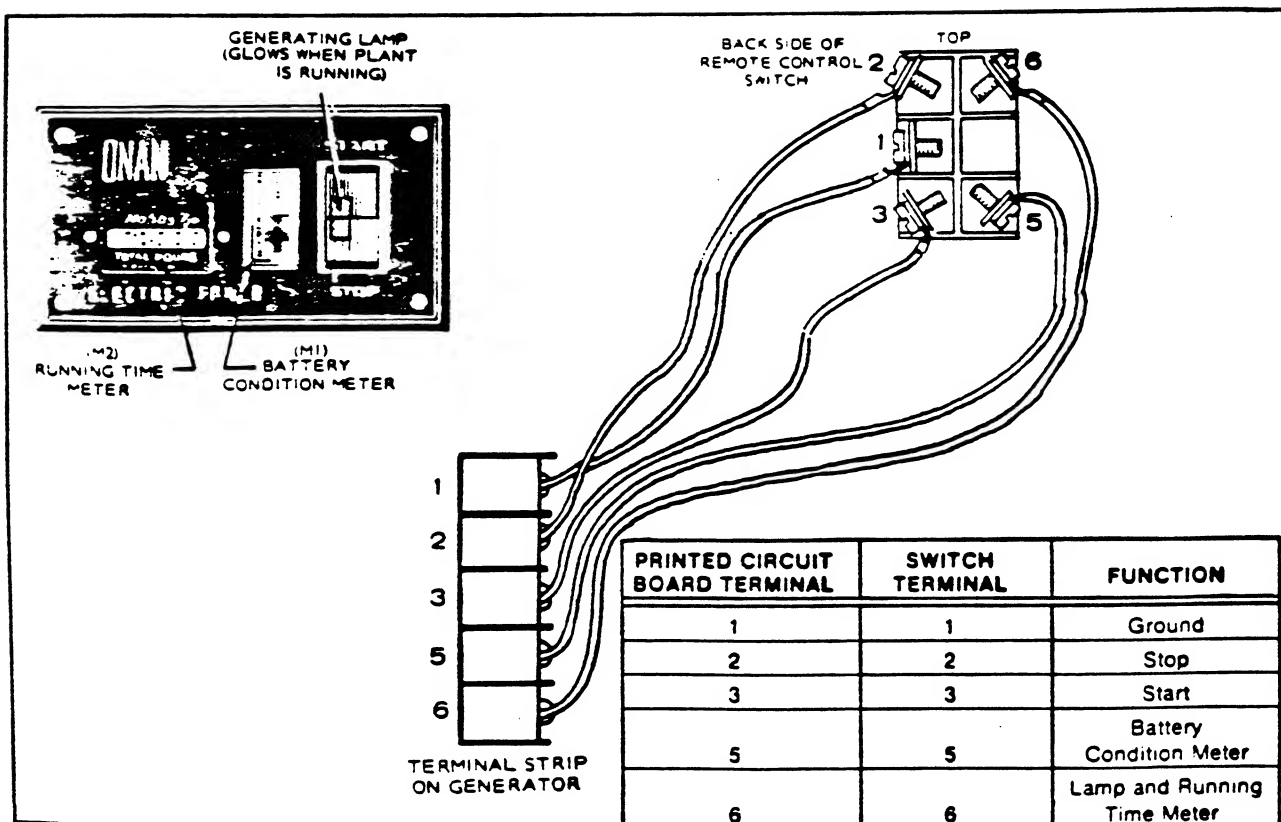

FIGURE 20. CONNECTING DELUXE REMOTE CONTROL (300-0986)
2. Following national and local electrical codes and using five insulated wires of predetermined length (#18 or larger), connect remote control to terminals on generator. Ensure that leads from remote control connect to corresponding terminals on generator terminal board. See Figure 20.